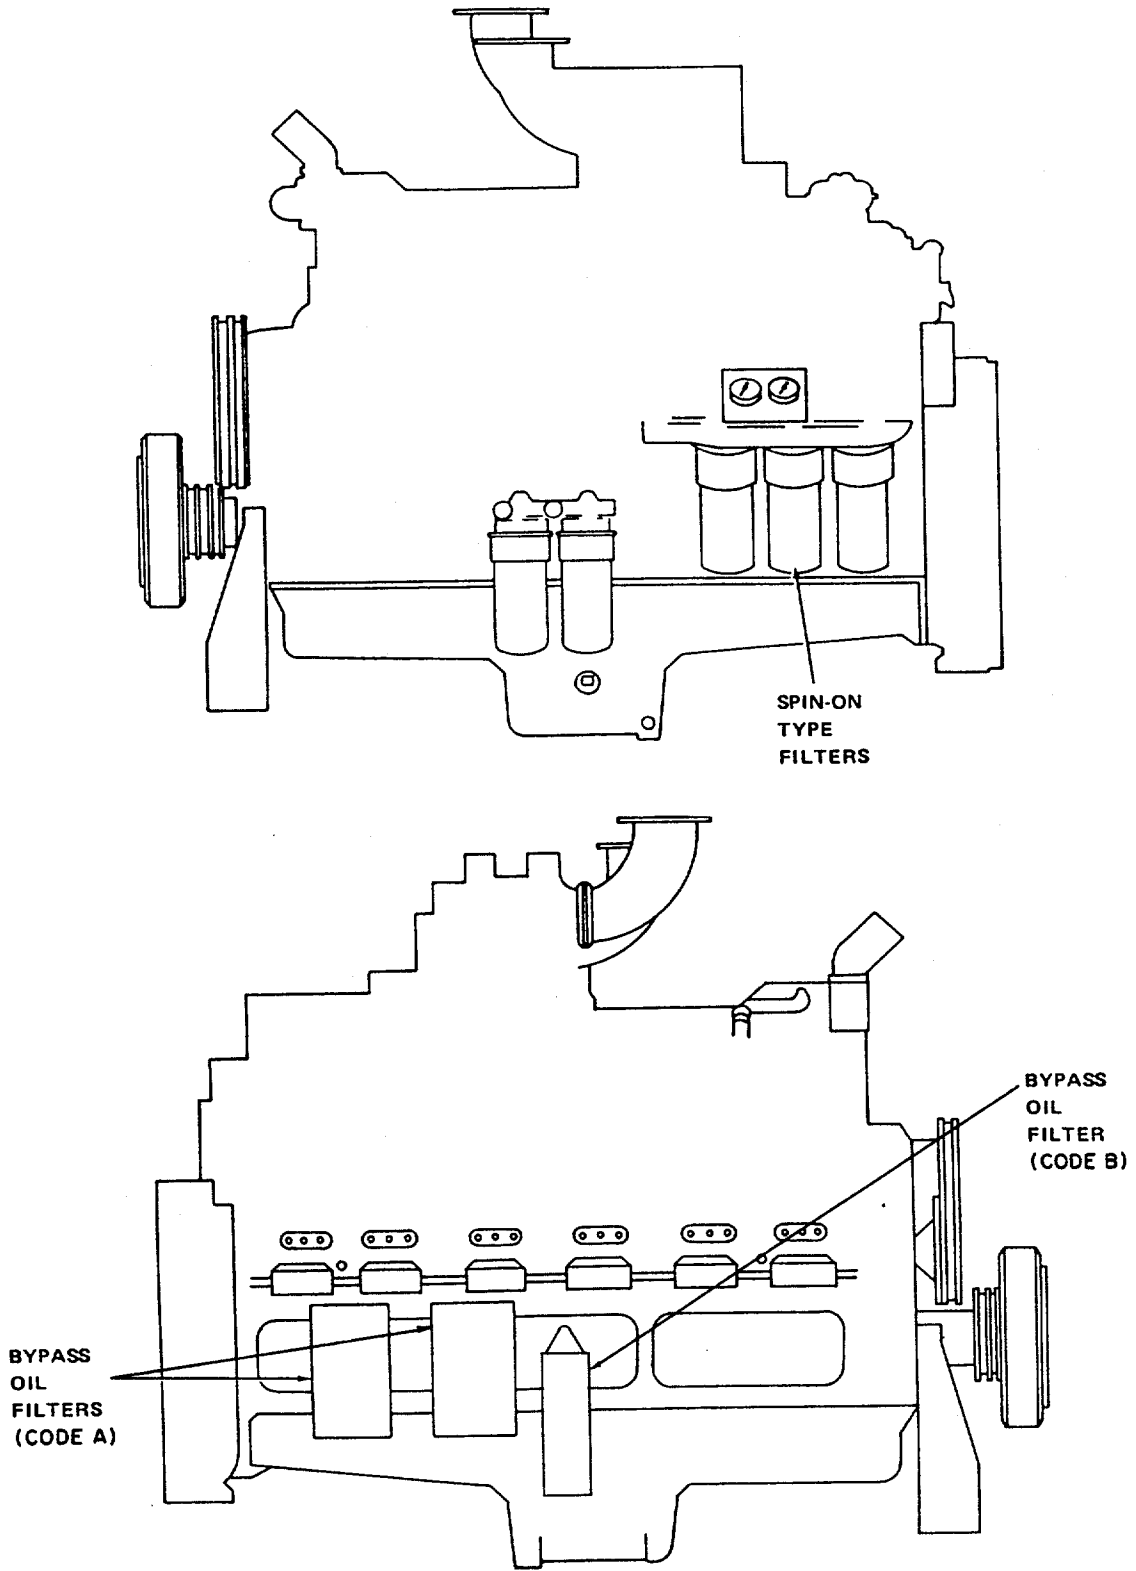

Figure 4-47. Oil Filters
4-74. OIL FILTERS. (See figure 4-47.)
- b. Bypass Oil Filters. (See figure 4-47.) Inspect filter case for dents, cracks, and oil leaks. If damaged, refer to higher maintenance.